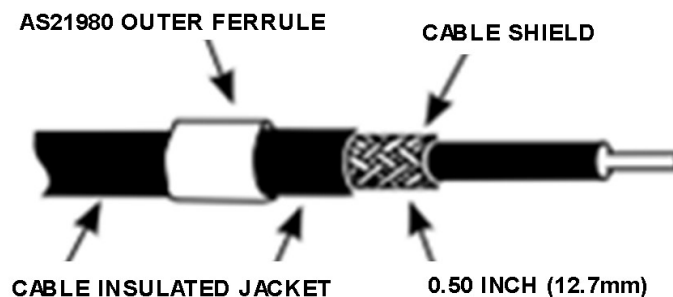

Figure 2 - Installation of the outer ferrule
- b. Measure the outer diameter (OD) of the conductor. Pick from Table 1 the AS21981 inner ferrule dash number with an inner diameter (ID) that closely matches the conductor OD plus 0.010 inch (0.254 mm). Following steps d and e in the proceeding instructions, install the inner ferrule beneath the shield. Measure the maximum diameter with the shield over the inner ferrule. Add 0.03 inch (0.76 mm) to the measured value for the ground conductor. The sum will give the ID of the AS21980 outer ferrule (i.e., an OD of 0.210 inch [5.33 mm] plus the 0.030 inch [76.2 mm] conductor OD requires a -261 (yellow) with an ID of 0.258 to 0.264 inch [6.55 to 6.71 mm]). If the cable OD exceeds the inner diameter of the AS21980 outer ferrule, terminate the cable in accordance with Method 3.
- c. Slide the chosen AS21980 outer ferrule over the outer jacket of the cable as shown in Figure 2.